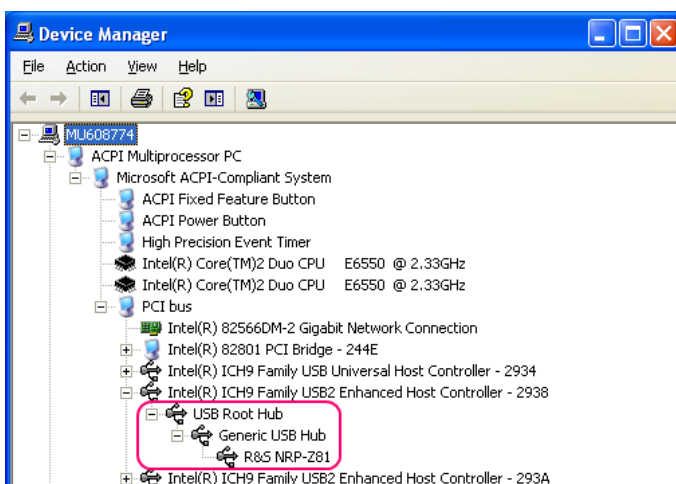

Fig. 1-11 Identification of USB root hub on which R&S NRP-Z5 is operated
3. Now identify the USB root hub on which the R&S NRP-Z5 is operated. To do so, expand the hierarchical display of the PC components, as shown in Fig. 1-11. Under **PCI bus**, find the USB host controller to whose root hub the R&S NRP-Z5 is connected. The R&S NRP-Z5 is shown as the **Generic USB Hub**. It can be distinguished from other USB hubs by the power sensor connected to it.